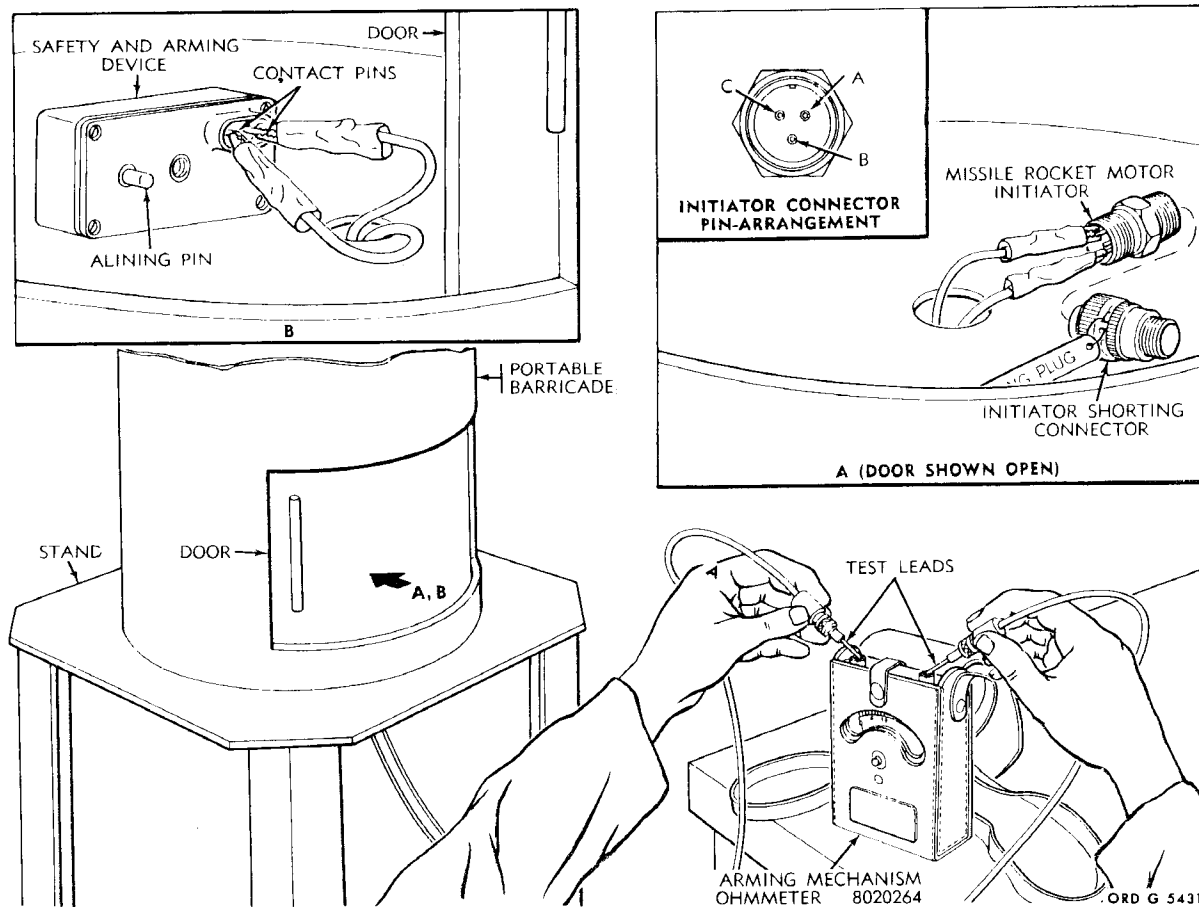

Figure 10-12. Test of the safety-and-arming device.
c. Using an inspection mirror, inspect the contact pins (B, fig. 10-12) for the presence of corrosion and for distortion. Devices with corroded or distorted pins will be rejected and replaced with serviceable devices.
(a) With the safety-and-arming device (B, fig. 10-12) located in a portable barricade, attach the alligator clips of the two arming mechanism ohmmeter leads to the contact pins of the safety-and-arming device; insure that the uninsulated portion of the test leads do not touch each other or the safety-and-arming device. Feed the test leads through the hole in the bottom of the barricade. Close the door of the barricade.